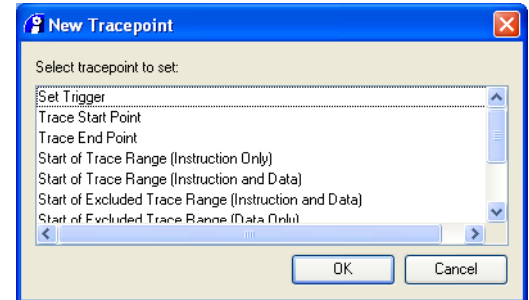

Figure 6-4 New Tracepoint dialog box
2. Select **Insert Tracepoint...** from the context menu to display the New Tracepoint dialog box. Figure 6-4 shows an example: